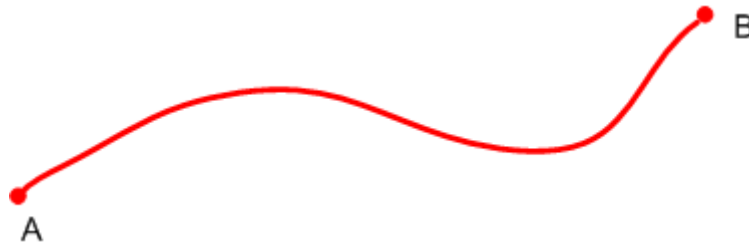

Figure 2.7 Go/MoveJ modes
- Go/MoveJ: From point A to point B, each joint will run from an initial angle to its target angle, regardless of the trajectory, as shown in Figure 2.7.